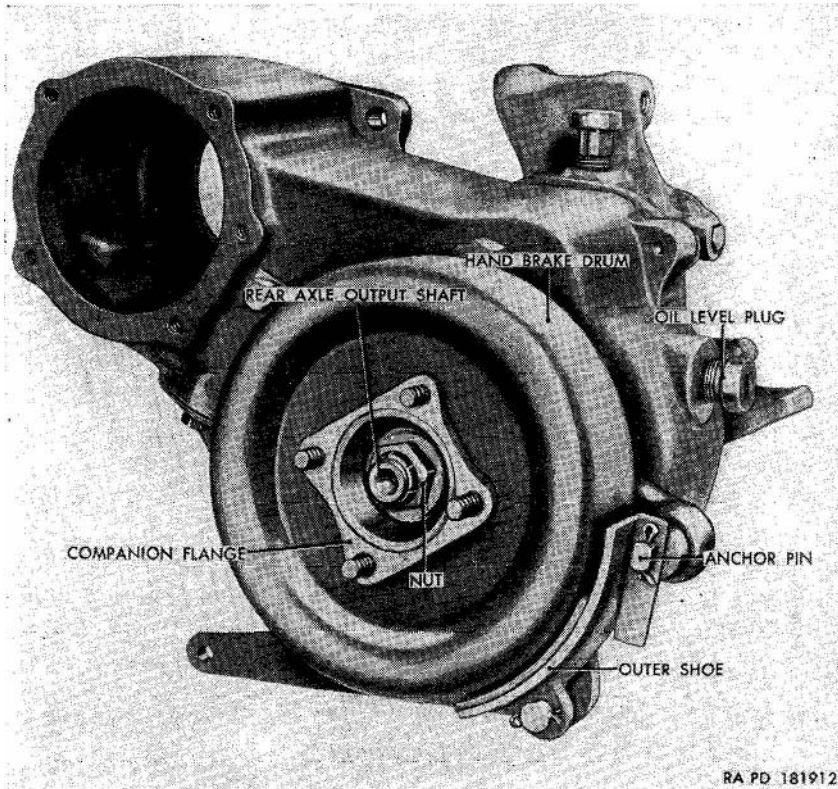

Figure 128. Transfer removed.
- h. Remove the nut (fig. 128) and washer securing the companion flange to the rear axle output shaft. Using a suitable puller, pull the
i. Remove the nut and lockwasher securing the anchor pin (fig. 128) to the transfer. Pull the anchor pin, with inner and outer shoes attached, from the transfer.
a. Insert the anchor pin (fig. 128), with inner and outer shoe attached, through the hole in the retainer of the transfer. Secure the pin to the retainer with one  $\frac{3}{8}$ -inch washer and nut.
b. Position the hand brake drum (fig. 128) on the companion flange, with the drum rim toward the flange hub. Secure the drum to the flange with four  $\frac{3}{8} \times 1\frac{1}{8}$  bolts with bolts in position shown in figure 128. Align the flange splines with the rear axle output shaft splines. Install the flange on the shaft, making certain the inner and outer shoes are aligned to mate with the brake drum rim. Using a soft mallet, tap the flange into position on the shaft. Secure the flange to the shaft with one  $\frac{3}{4}$ -inch washer and  $\frac{3}{4}$ -inch nut.